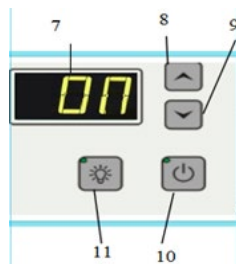

Fig. 9-1
- Under the normal operating status, press and hold the Key (10) to enter the heater countdown timer setting mode (Display 7 shows either 'ON' or 'OFF'); click Key (8) or (9) to turn on or off the countdown timer (Fig. 9-1 and 9-2), respectively;